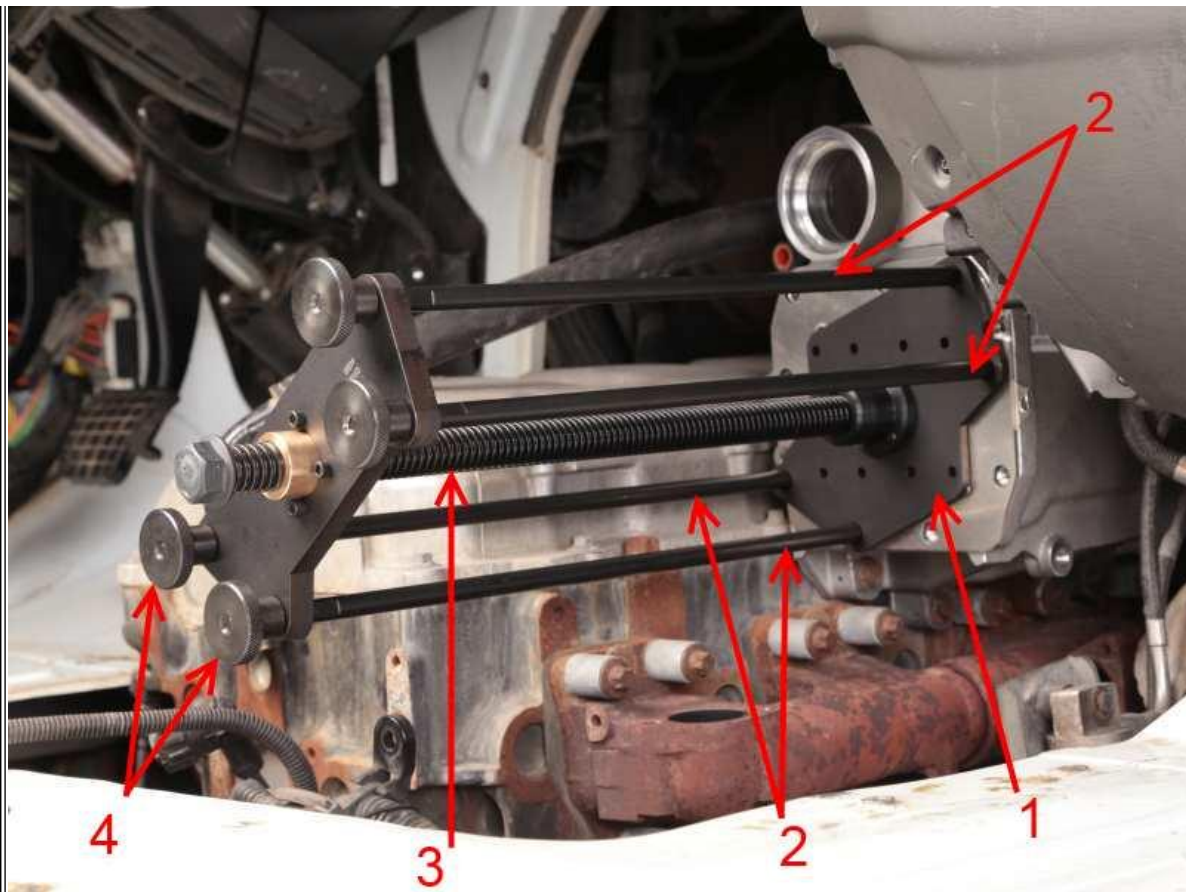

Figure 2: HT Core Removal Tool
a. Screw in the support rods in the two upper right, and lower, bottom left corner, holes (**Figure 2**, Item 2). **Tighten using a 9mm open-end wrench.**
- c. Attach/tighten the thumb screws (**Figure 2**, Item 4).